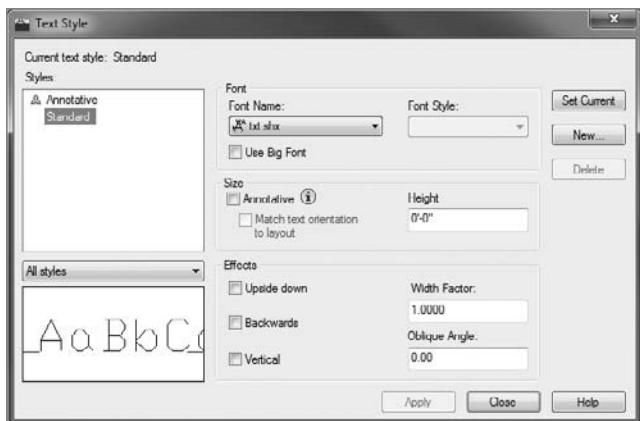

FIGURE 8.3 The Text Style dialog box, where you'll begin setting up text styles
After you start the **STYLE** command, the Text Style dialog box shown in Figure 8.3 opens.
2. In the Styles area of the Text Styles dialog box (see Figure 8.3), you'll see the default Standard text style as well as the Annotative text style.
Refer to Figure 8.3 for a moment, and note that the Standard text style has a height of 0'-0" (0). When the current text style has a height set to 0, you're prompted to enter a height each time you begin to place single-line text in the drawing. The default height will be $\frac{3}{16}$ " (or 0.20 for decimal units and 2.5 for metric). Multiline text will use the default height of $\frac{3}{16}$ " unless you change it.